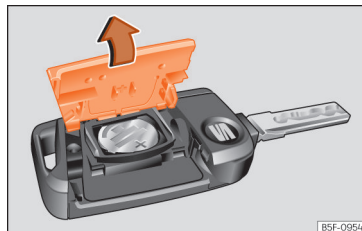

Fig. 141 Vehicle key: opening the battery compartment.
- Remove the cover from the back of the vehicle key »» Fig. 141 in the direction of the arrow »» ①.
- Fit the cover as shown »» Fig. 141, pressing it onto the vehicle key casing in the opposite direction to that shown by the arrow until it clicks into place.